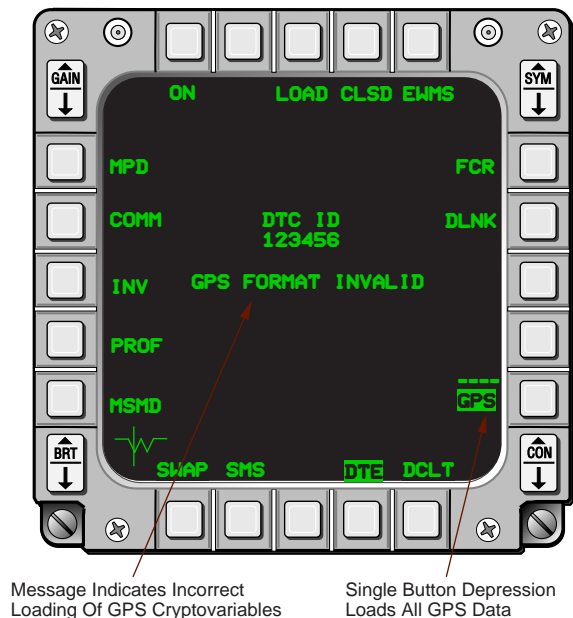

Figure 2-27 GPS Data Load On DTE Page
**GPS Data Entry.** To achieve optimum operation, the GPS requires three data sets at power turn-on: GPS almanac data, GPS cryptovvariable (keys) data, and GPS initialization data (latitude, longitude, altitude, speed, heading, time, and date). Usually, there is no need to load almanac data for normal training missions. The almanac data is loaded as part of maintenance installation and is retained through power cycles. However, the GPS almanac and cryptovvariable data can be loaded by depressing the GPS OSB on the MFD DTE page (Figures 2-27). The almanac data allows the GPS to locate and acquire satellites for navigation, thus improving the reaction time performance of the GPS. The keys enable the GPS to properly decode satellite navigation messages when data encryption functions are employed by the satellites. The keys and almanac data parameters cannot be directly verified in the cockpit; however, indirect indications of the status and quality of this data (described in the next section) are available to the pilot via the DED and Multifunction Display Set (MFDS).